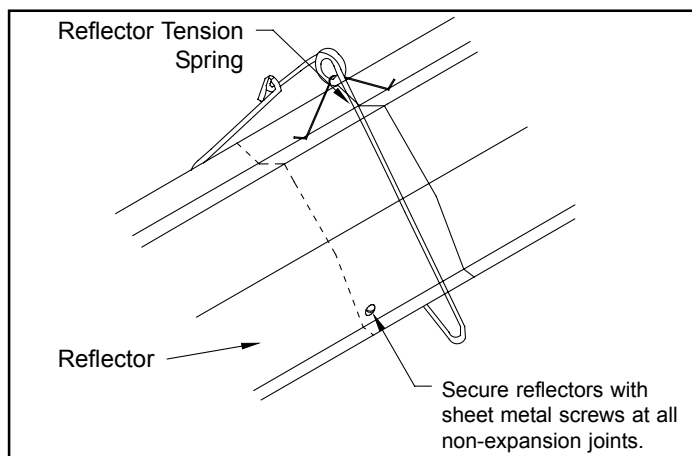

Figure 3-11
2. Slide reflectors through wire hangers and overlap mating reflector ends four inches for support (see figure 3-11). Install sheet metal screws as shown.